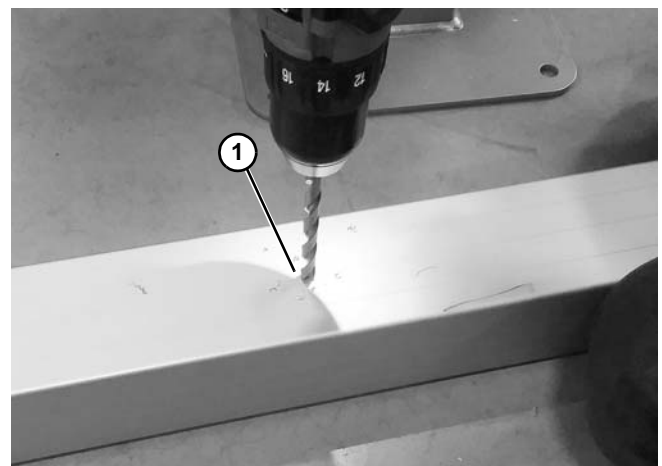

Figure 8
9. Drill holes (**Figure 8, item 1**) to mount controller to enclosure.